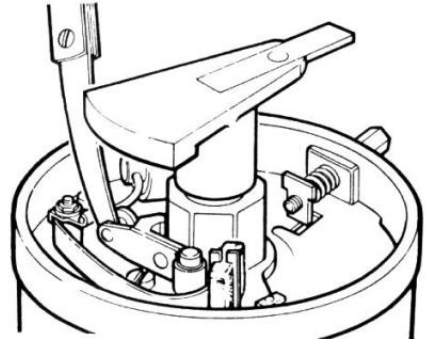

FIG. 81
24. Renew the contact breakers, ensuring they are the correct type, and adjusted initially to 0,35 to 0,40 mm (0.014 to 0.016 in) as shown in **Fig. 81**.